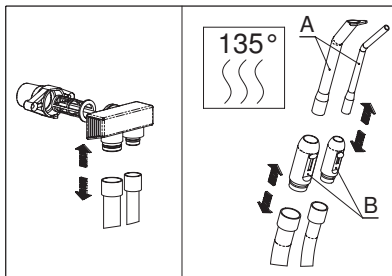

Fig. 16
Fig. 16: Cannulas (A) and cannula-holders (B) can be sterilised and are autoclave-safe. If not fitted with a continuous suction system, the separator system should be left for a short emptying period.